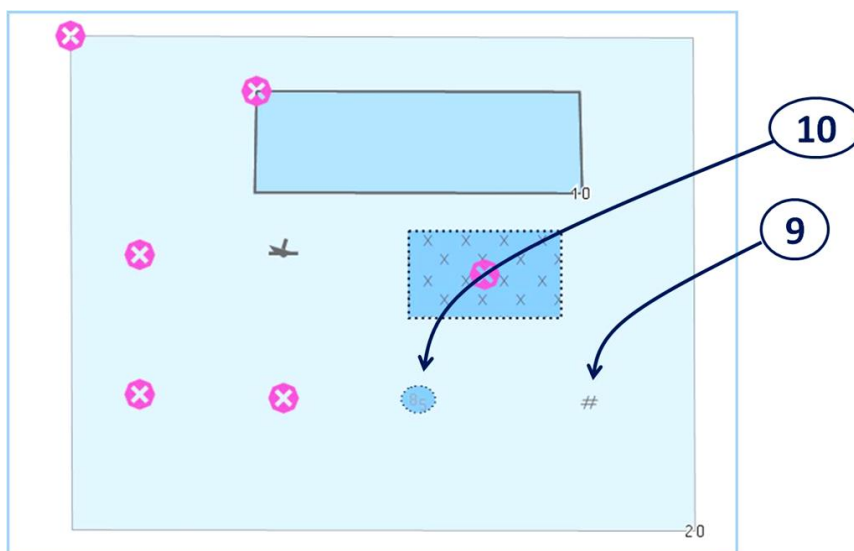

Figure 6 - Correct display of isolated dangers in OTHER mode and with 8m safety contour/safety depth set
9. The display should then look exactly like Figure 6 and include the symbol for “foul area of seabed safe for navigation but not for anchoring” (9) and the symbol for “underwater hazard with a defined depth” (10) on the display: